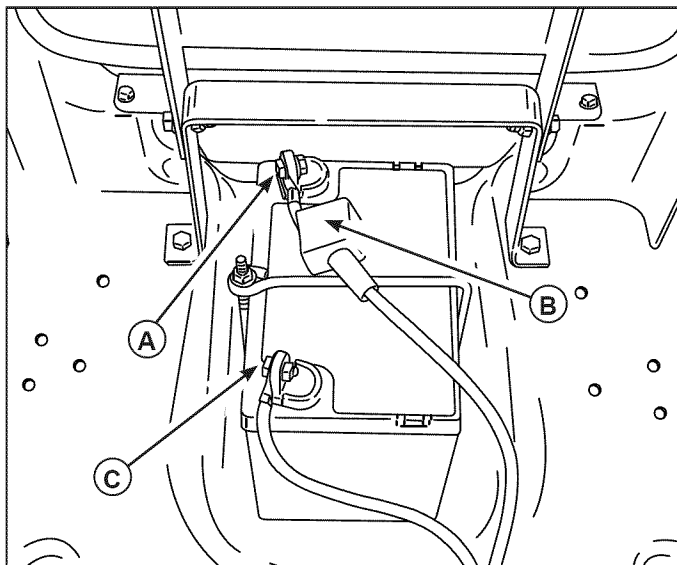

Figure 17. Battery Compartment
1. Disconnect the cables from the battery, negative cable first (**C**, Figure 17).